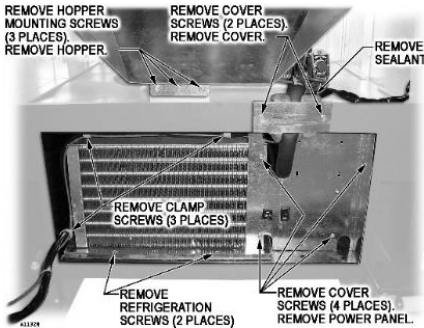

Figure 13. Remove mounting screws
2. Remove condenser assembly mounting screws. Refer to **Figure 13**.